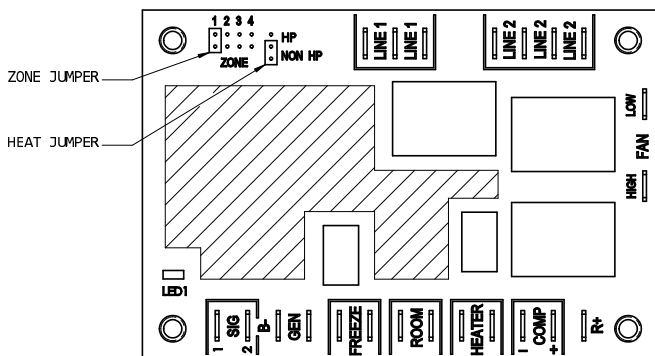

FIGURE 3
2. Set the "zone" jumper to the proper zone position for the particular position the air conditioner or heat pump will be in the coach (**Refer to Figure 3 – Zone 1 is shown**). Zones should be numbered from the front to the back of the coach with Zone 1 in front.
3. Set the "HP"/"NON HP" jumper to "HP" if the unit is a heat pump or to "NON HP" if the unit is not a heat pump (**Refer to Figure 3 – Non HP is shown**).